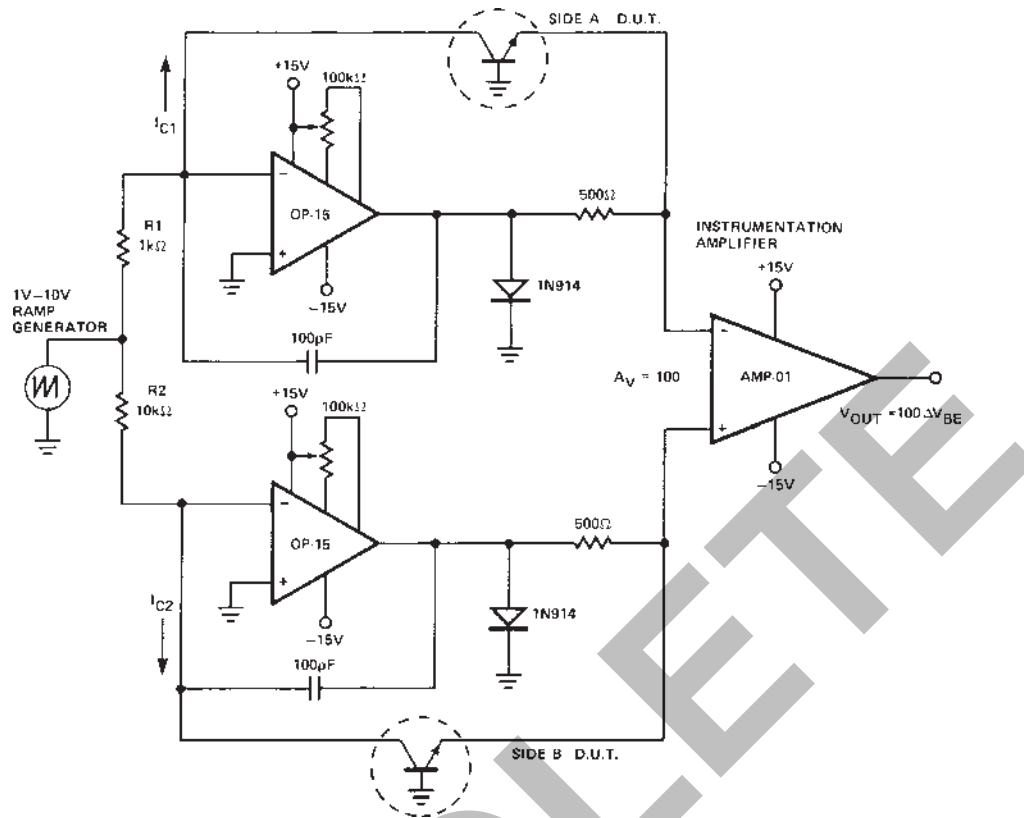

Figure 1. Log Conformance Test Circuit
Returning to the multiplier/divider circuit of Figure 1 and using Equation (4):